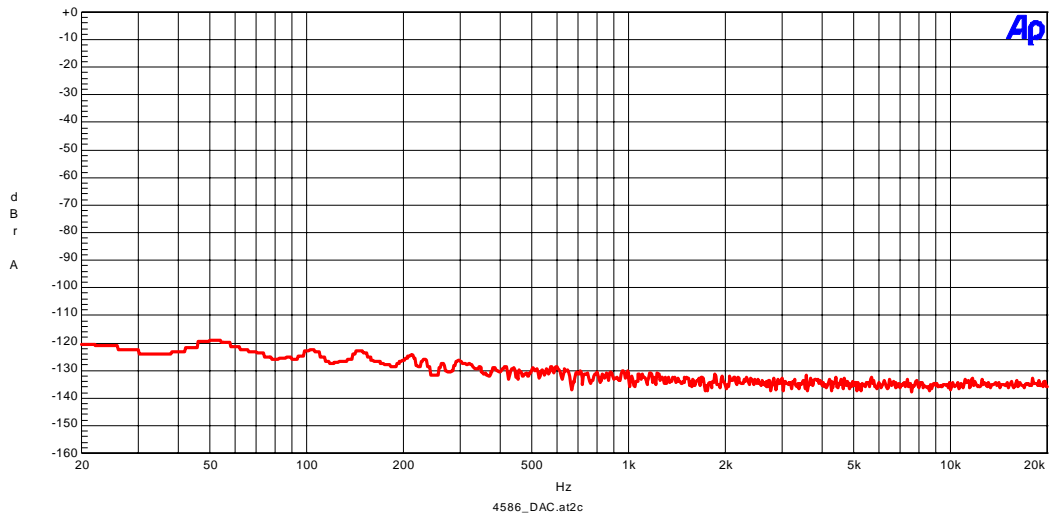

Figure 3-3. FFT (Noise floor)
- Figure 3-3. FFT (Noise floor)